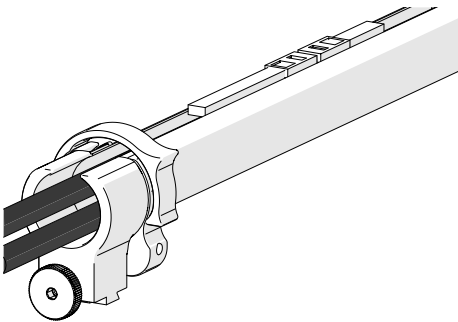

Fig. 79 - Zip opposite end
3. Once the cable is placed the entire length of the sleeving, bring the zipper from the sleeving's opposite end, meeting at any point in the middle (*Fig. 79*).